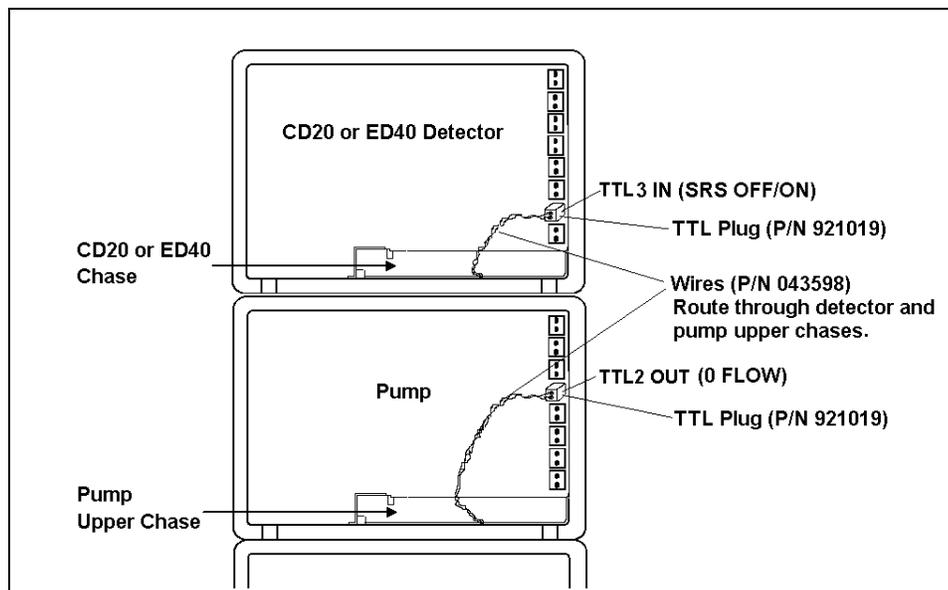

Figure B-6. TTL Connections for SRS Power Control
5. Plug one end of the cable into **TTL2 OUT** on the IP25. (The TTL connectors are located behind the upper door). Route the cable out through the upper chase of the IP25 and into the CD20 or ED40 upper chase. Plug the other end into **TTL3 IN** on the detector (see Figure B-6). Make sure the red wire is on top and the black wire is on the bottom of each connection when it is plugged into the module.